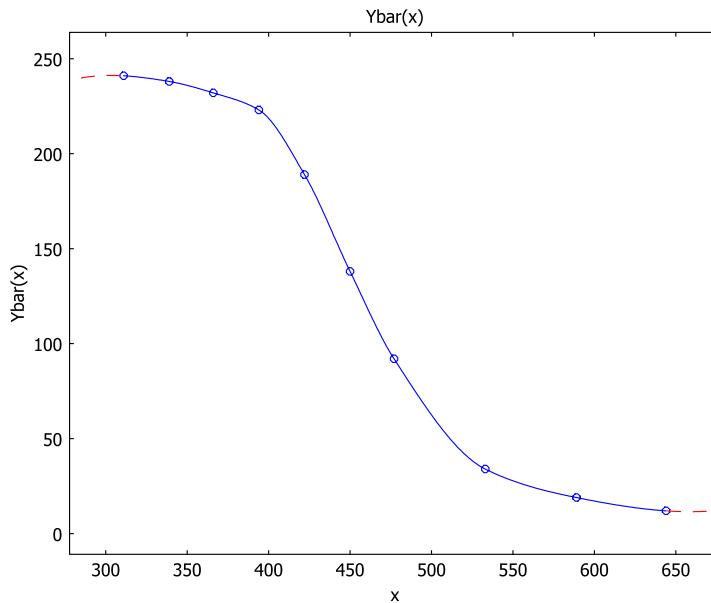

Figure 3-20: Yield stress (MPa) vs. temperature (K) for 6061-T6 aluminum.
Here  $\mu$  is the friction coefficient,  $r_p$  denotes the pin radius,  $\omega$  refers to the pin's angular velocity (rad/s), and  $\bar{Y}(T)$  is the average shear stress of the material. As indicated, the average shear stress is a function of the temperature; for this model, you approximate this function with an interpolation function determined from experimental data given in Ref. 1 (see Figure 3-20).
- 6 When finished, click **Plot** to view the resulting interpolation function (Figure 3-20), then click **OK** to close the **Functions** dialog box.